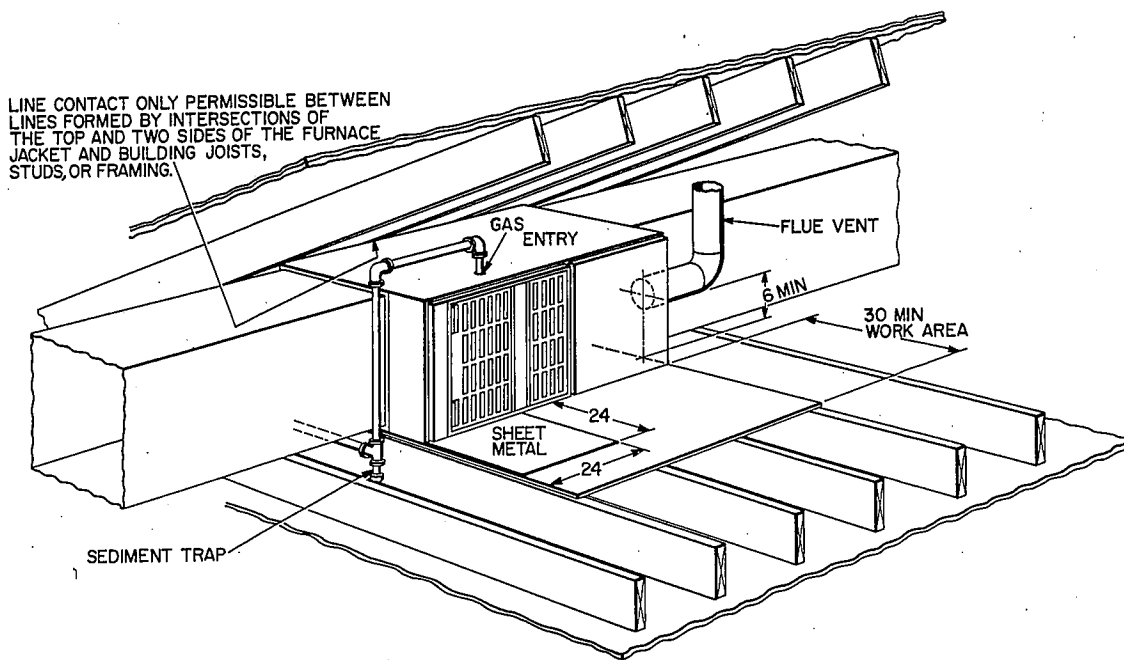

Fig. 7—Typical Attic Installation
3. Line contact is permitted as shown in Fig. 7.
The furnace can be installed horizontally on either the lefthand (LH) or righthand (RH) side. A typical attic installation is shown in Fig. 7.
1. Construct working platform on location where all required furnace clearances are obtainable. (See Table 1 and Fig. 7.)
2. Connect gas supply pipe; see Fig. 7 for typical piping entry.
4. Install 24- x 24-in. sheet metal shield on platform in front of louvered control panel as shown in Fig. 7.